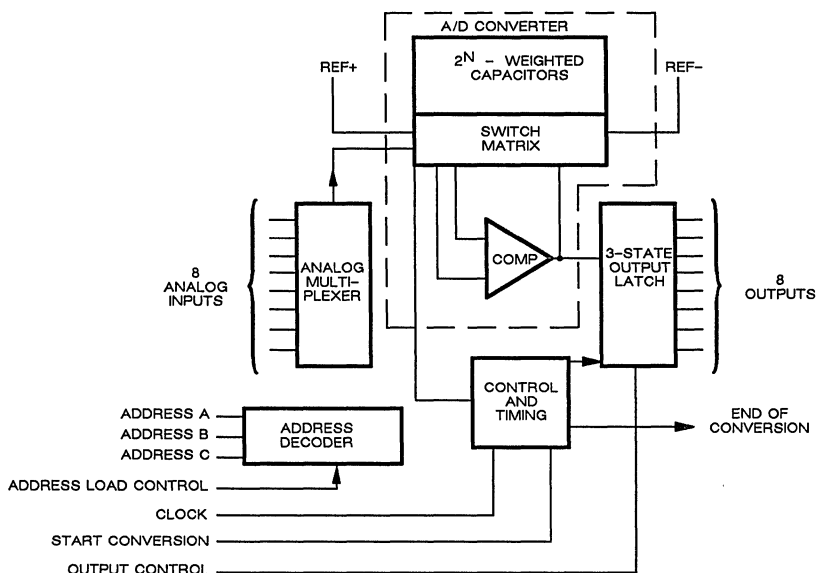

Figure 1. Block Diagram of the Si8601 Data Conversion System
Figure 1 shows a block diagram of the Si8601. Address inputs A0, A1, and A2 allow selection of the 8 channels of the multiplexer. Since the multiplexer works asynchronously with respect to the A/D converter section, care must be exercised not to change input channels during the first 9 clock cycles (sampling phase) after the SC (start conversion) pulse. Each channel has a single-ended input which has an analog range from -REF to +REF, giving a conversion range from 3 to 6.5 V. Note that only a 5 V VCC and +REF will allow TTL compatibility. The -REF input allows separation of analog and digital grounds which helps to keep noise spikes that might be present on the digital system ground from affecting the accuracy of the analog input to the Si8601. The eight tri-state data outputs provide the data to the microprocessor. A square wave signal is needed for the CLOCK input. Maximum clock frequencies of 1.4 MHz are possible. Clock duty cycle can be anywhere from 20 to 80%. The OUTPUT CONTROL (OC), START CONVERSION (START), and ADDRESS LOAD CONTROL (ALC) provide the means for the microprocessor to control the Si8601. The END OF CONVERSION (EOC) output